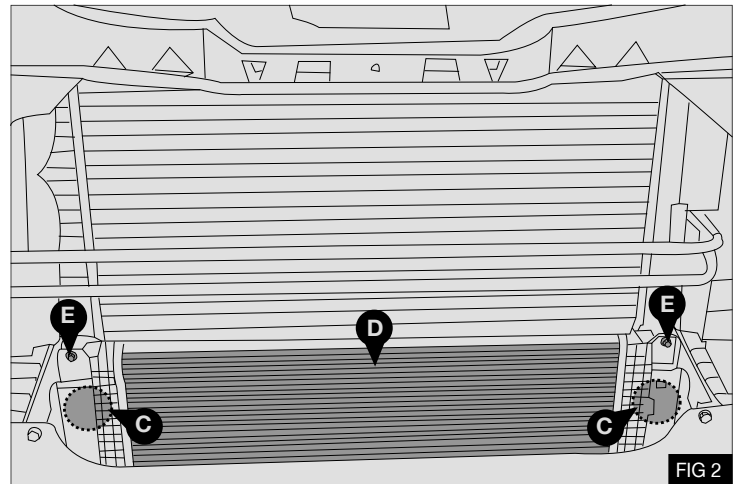

FIG 2
2. Disconnect the intercooler hoses (C) from the intercooler (D). Remove the two securing bolts (E) from the intercooler (D). Remove the intercooler (D) from the vehicle - Fig 2